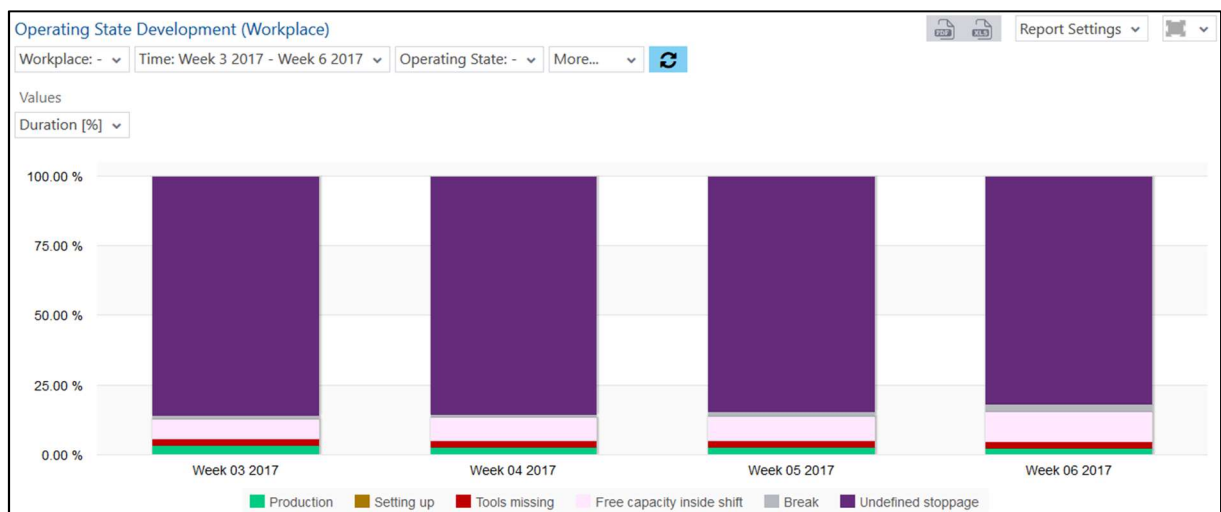

Fig. 57: Operating State Development (Workplace) as a column chart
- Operating State Development (Workplace) as a column chart (Fig. 57):